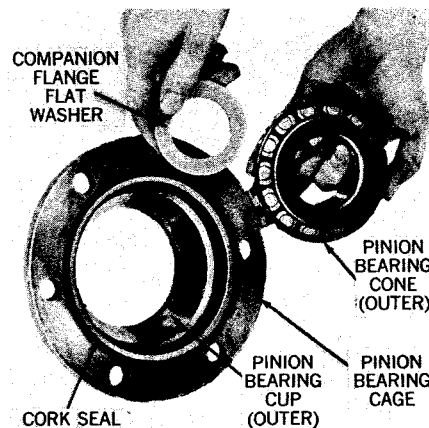

Fig. 8.
6. With pinion bearings correctly adjusted, remove companion flange. Install new cork seal (see fig. 8) in groove of pinion bearing cage. Install oil seal retainer assembly, then reinstall companion flange, flat washer and pinion nut. Tighten nut to correct torque, then install cotter pin.